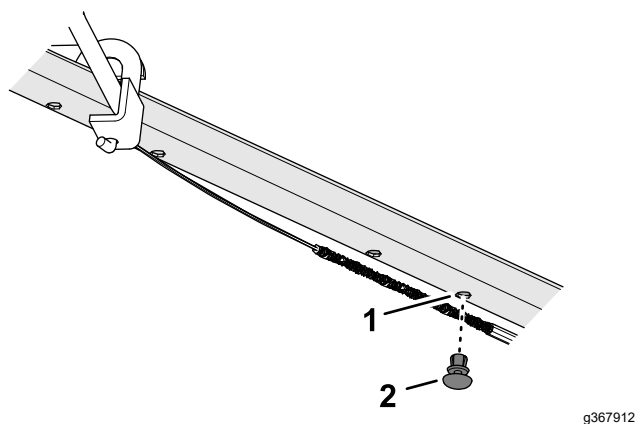

Figure 12
1. Insert the push-in fastener into the hole in the upper handlebar as shown in Figure 12.